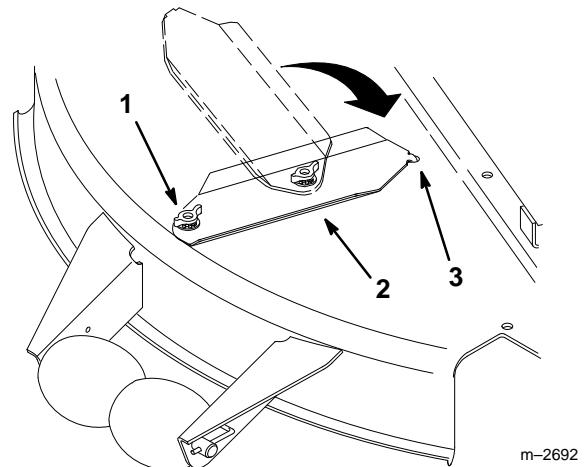

Figure 31
7. Slide the wing nut and front cover shaft to the "OPEN" position on the deck to swing the front cover to the side discharge position (Fig. 31).
8. Insert the tab on the end of the slot cover back into the slot in the deck (180 degrees from its original position), then tighten the wing nut on the front cover shaft (Fig. 31).